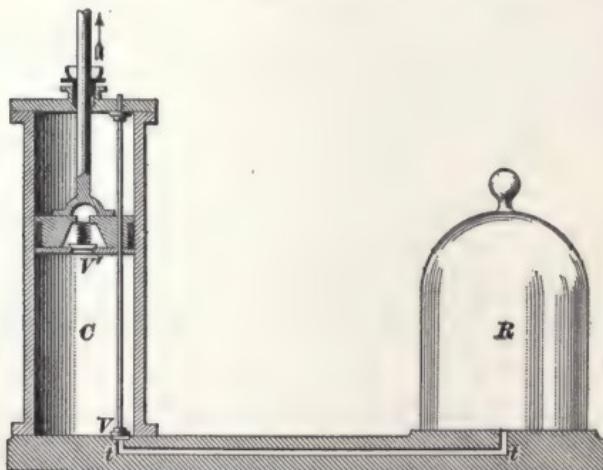
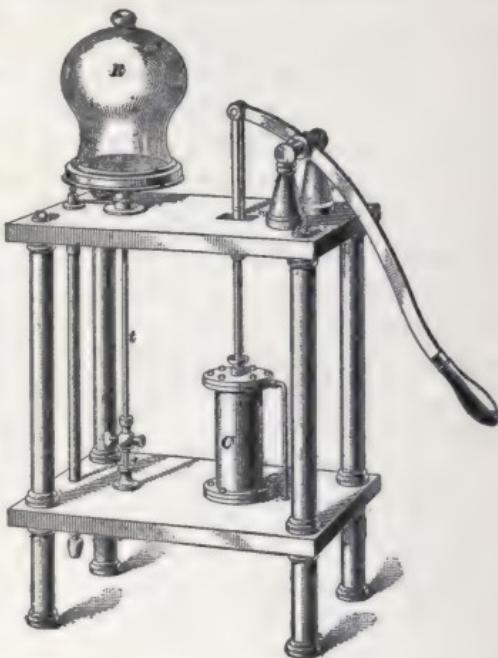

FIG. 19.
FIG. 20.
shown in Fig. 19 and the complete instrument in Fig. 20. The closed vessel *R* is called the **receiver**, and the space
The piston is now pushed down, the valve  $V'$  closes, the valve  $V$  opens, and the air in  $C$  escapes. The lower valve  $V$  is sometimes supported, as shown in Fig. 19, by a metal rod passing through the piston and fitting it somewhat tightly. When the piston is raised or lowered, this rod moves with it. A button near the upper end of the rod confines its motion within very narrow limits, the piston sliding upon the rod during the greater part of the journey. In the complete form of the instrument shown
in Fig. 20, communication between receiver and pump is made by means of the tube  $t$ .
**61. Degrees and Limits of Exhaustion.**—Suppose that the volume of  $R$  and  $t$  together is four times that of  $C$ , Fig. 19, and that there are, say, 200 grains of air in  $R$  and  $t$ , and 50 grains in  $C$  when the piston is at the top of the cylinder. At the end of the first stroke, when the piston is again at the top, 50 grains of air in the cylinder  $C$  will have been removed, and the 200 grains in  $R$  and  $t$  will occupy the space  $R$ ,  $t$ , and  $C$ . The ratio between the sum of the spaces  $R$  and  $t$  and the total space  $R + t + C$  is  $\frac{4}{5}$ ; hence,  $200 \times \frac{4}{5} = 160$  grains = the weight of air in  $R$  and  $t$  after the first stroke. After the second stroke, the weight of the air in  $R$  and  $t$  would be  $(200 \times \frac{4}{5}) \times \frac{4}{5} = 200 \times (\frac{4}{5})^2 = 200 \times \frac{16}{25} = 128$  grains. At the end of the third stroke, the weight would be  $[200 \times (\frac{4}{5})^2] \times \frac{4}{5} = 200 \times (\frac{4}{5})^3 = 200 \times \frac{64}{125} = 102.4$  grains. At the end of  $n$  strokes the weight would be  $200 \times (\frac{4}{5})^n$ . It is evident that it is impossible to remove all the air that is contained in  $R$  and  $t$  by this method. It requires an exceedingly good air pump to reduce the tension of the air in  $R$  to  $\frac{1}{60}$  inch of mercury. When the air has become so rarefied as this, the valve  $V$  will not lift, and, consequently, no more air can be exhausted.